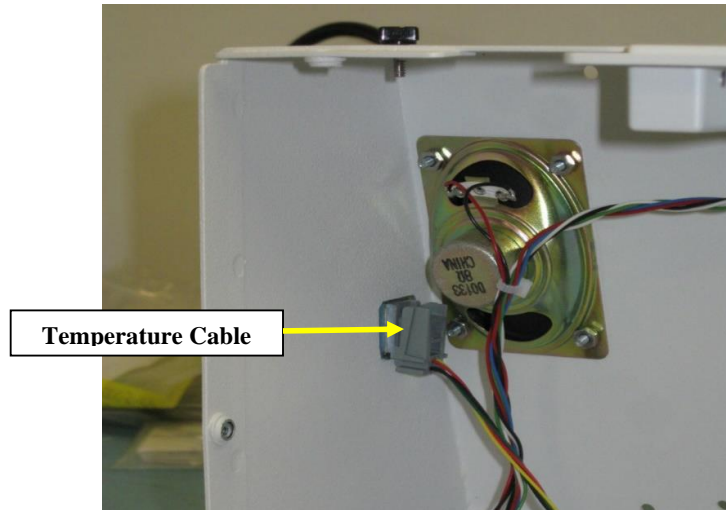

Figure 26
- 12.18. Attach the phone jack of the Temperature Cable (made in Step 7) to the Chassis using super glue (3M CA4 or equivalent) as shown in Figure 26. *Note: the speaker must be mounted before the Temperature Cable.*